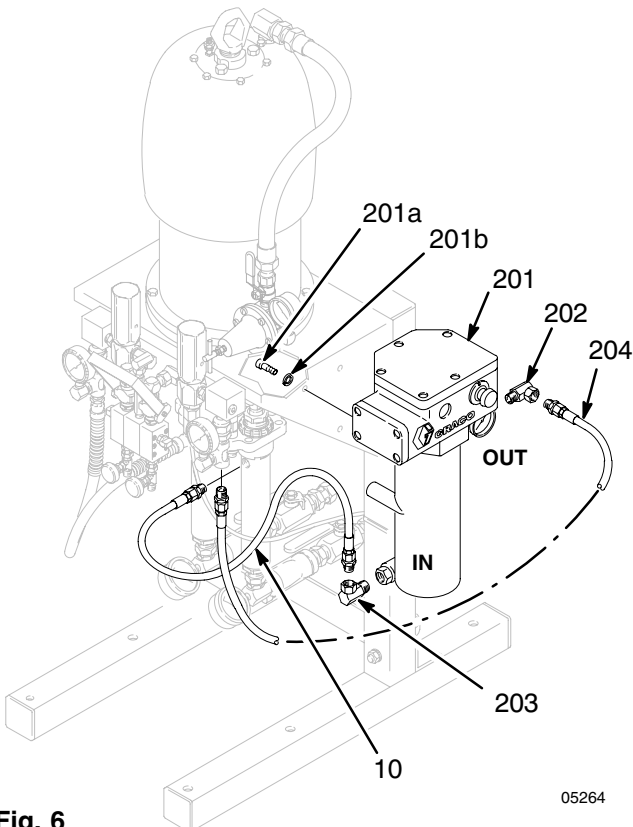
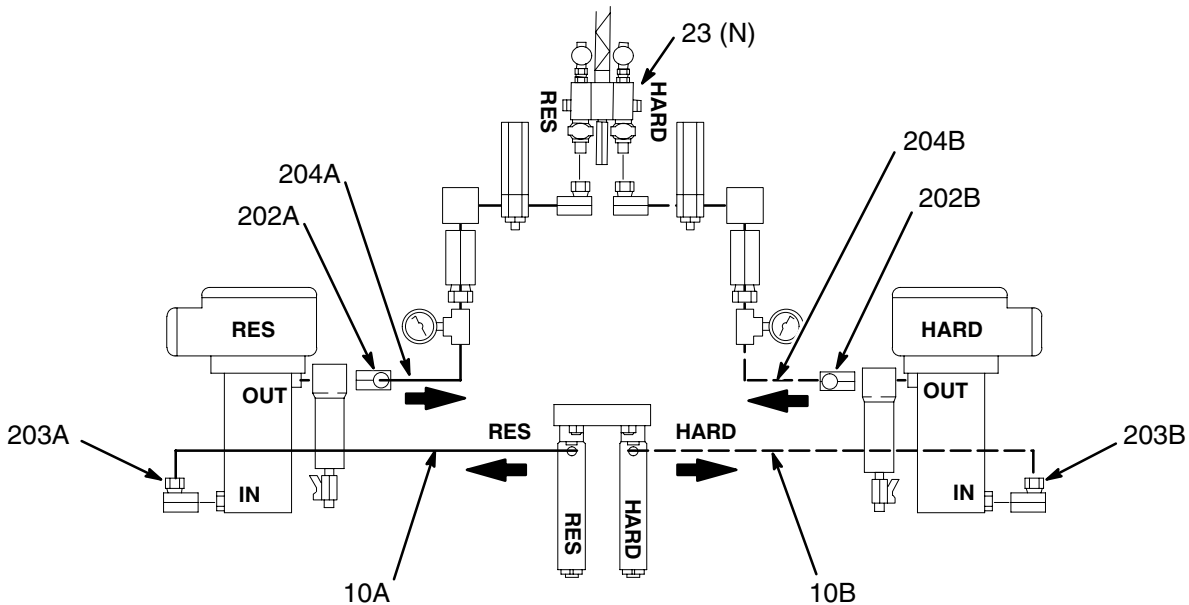

Fig. 6
Fig. 7
1. Mount a heater to each side of the mounting bracket using the three screws (201a) and lock-washers (201b) supplied with each heater. See Fig. 6.
2. Connect a swivel union (202) to the outlet of each heater. See Fig. 6.
3. Connect a swivel union (203) to the inlet of each heater. See Fig. 6.
1. Disconnect the existing hardener hose (10B) from the inlet of the mixer manifold (23). See Fig. 6. Connect the free end of the hose to the swivel (203) at the hardener heater inlet. See Fig. 7.
2. Install a new fluid hose (204B) between the hardener heater outlet (202B) and the hardener mixer manifold. See Fig. 6 and 7.